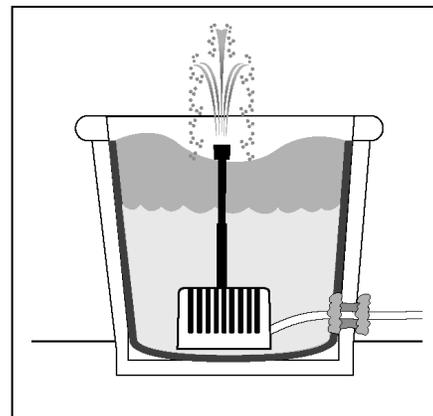

Fig. 8
- Test fit the assembled container fountain kit in the container. Fill the container with water, 2/3 up to the top. Fig. 8